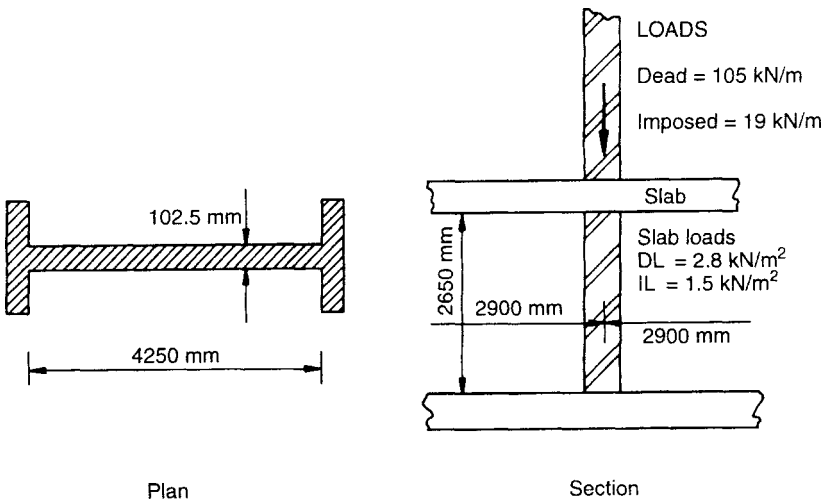

Fig. 5.15 Plan and section details for example 1.
5.9.1 Example 1: Internal masonry wall (Fig. 5.15)